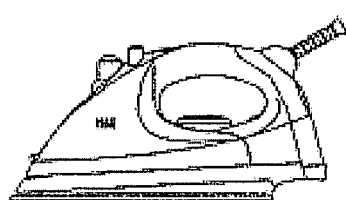

FIGURE 9
5. Fill to the MAX level as marked on the Detachable Water Tank (see FIGURE 9).